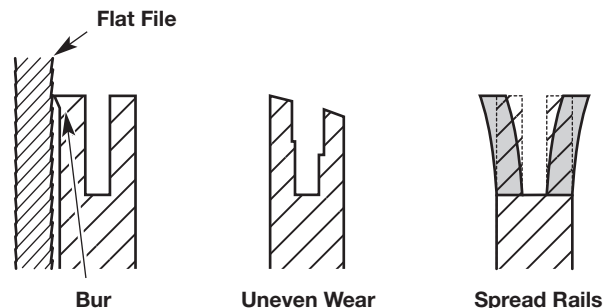

Fig. 39
3. Frequently check the guide bar for damage (Fig. 39). Feathering and burring of the guide bar rails (the ridges on either side of the bar groove) is a normal process of guide bar wear. Such faults should be smoothed with a file as soon as they occur (Fig. 39). A guide bar with the following faults should be replaced: